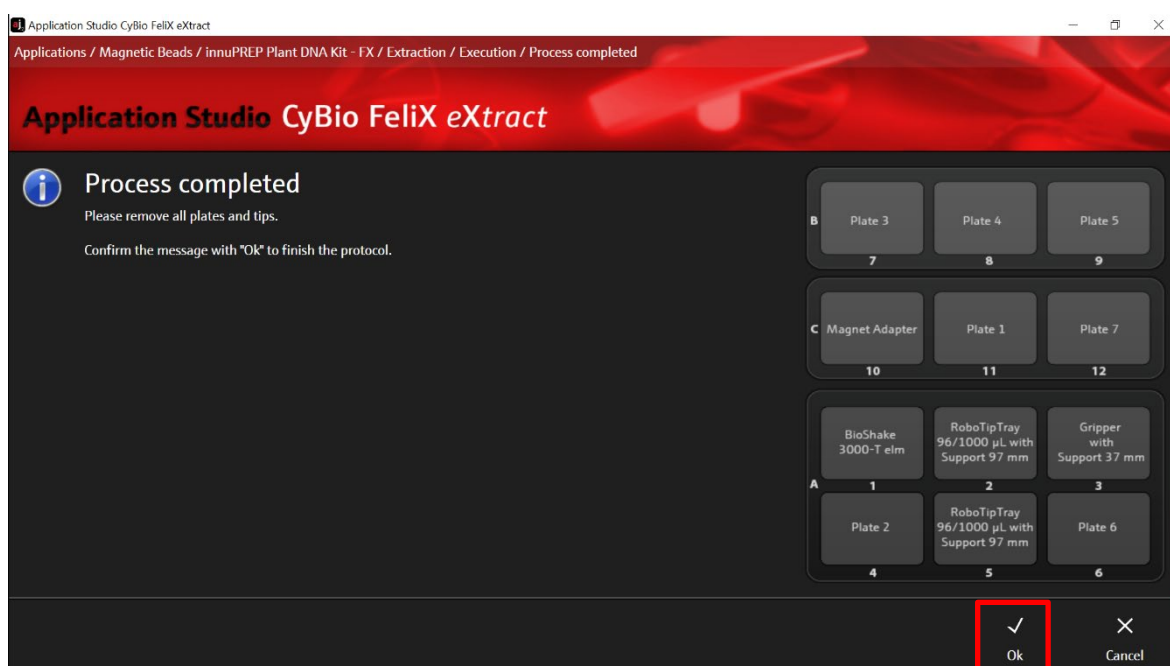

Figure 17: Process completed.
11. Confirm the “Process completed” message with “Ok” (→ see Figure 17).